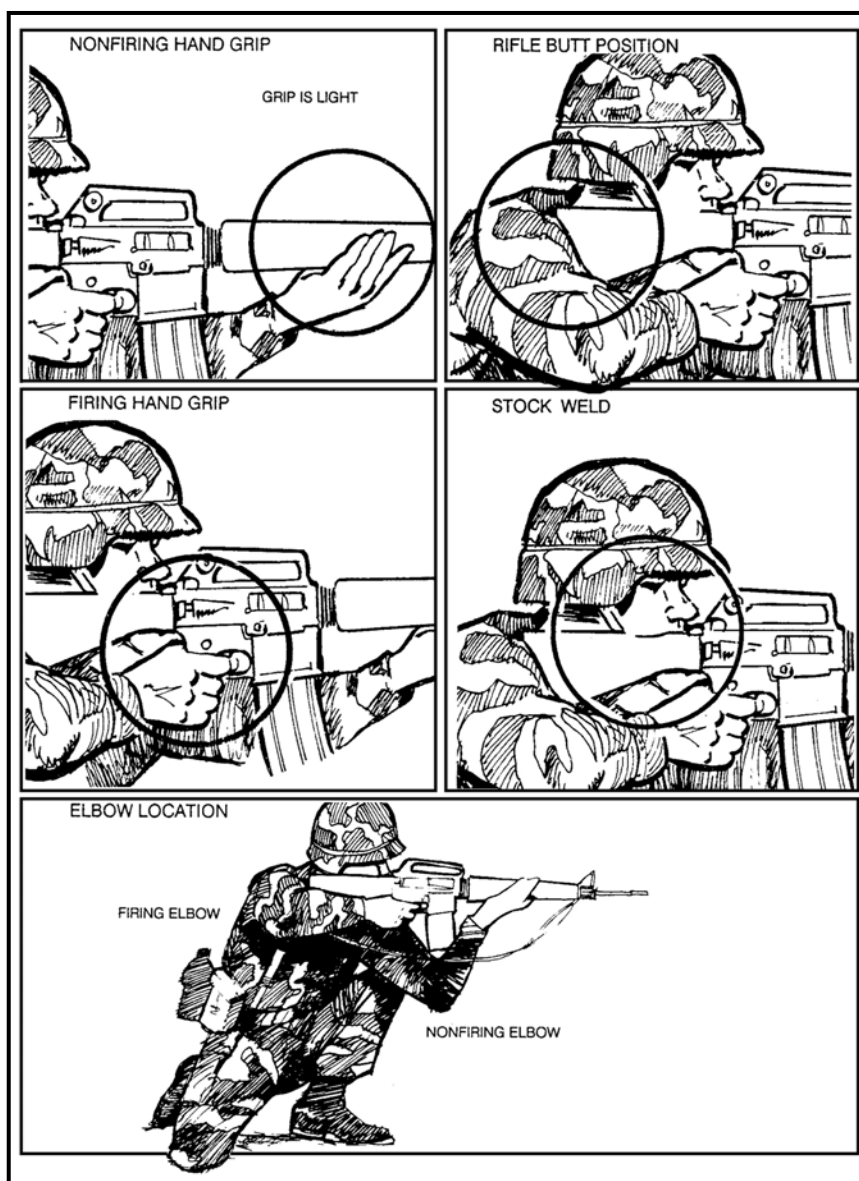

Figure 4-16. Steady position.
a. **Steady Position.** When the soldier approaches the firing line, he should assume a comfortable, steady firing position. The time and supervision each soldier has on the firing line are limited. He must learn how to establish a steady position during integrated act of dry-fire training (Figure 4-16). The firer is the best judge of the quality of his position. If he can hold the front sight post steady through the fall of the hammer, he has a good position. The steady position elements are as follows.